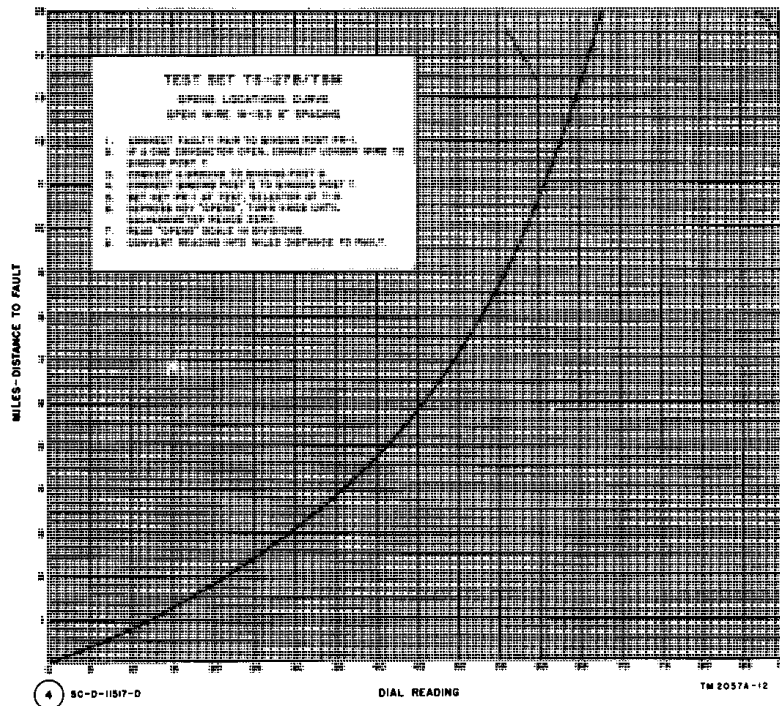

Figure 12. Test Set TS-27B/TSM, opens location curve for Wire W-153
(3) Opens in Cable Assembly CC-345.
(4) Opens in open wire lines.
- (d) The 8-inch spacing curve for Wire W-153 (fig. 12) provides a means of converting the dial reading to the number of miles to the open for one of the more common types of open wire line. The curve for W-143 open wire line provides similar information for this facility. Data for curves for other types of lines may be obtained experimentally by taking opens readings on five or six opens inserted for the purpose at various distances from the test set. Blank curve sheets are provided in the lid of the chart assembly case for plotting such curves.